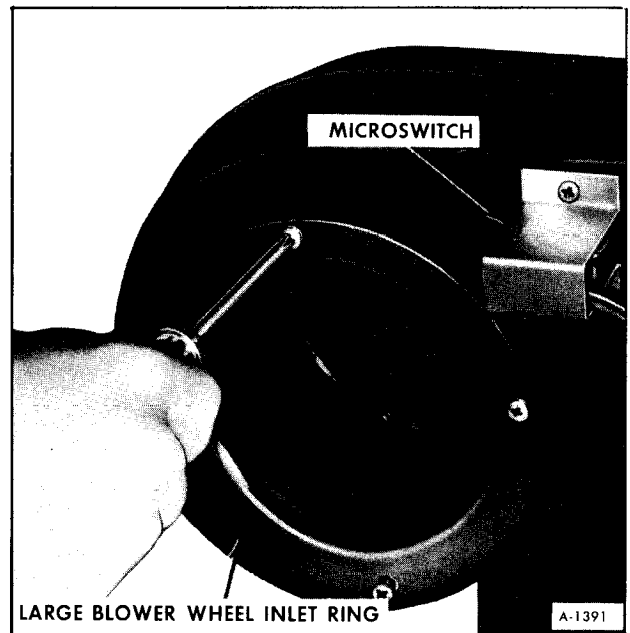

Figure 25–Removing Blower Wheel Inlet Ring
6. Remove large blower wheel inlet ring (4 screws) (figure 25).
7. Install large blower wheel inlet ring to housing (4 screws) (figure 25).